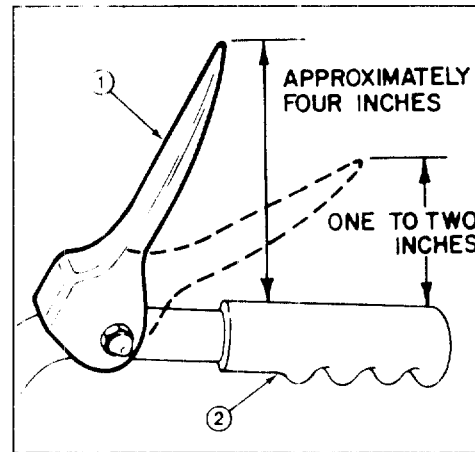

Figure 7
6. Slowly pull machine backward while slowly depressing traction control lever toward handle. Adjustment is correct when wheels stop turning and the distance between the top of the handgrip and the bottom of the traction control lever is one to two inches (Fig. 7). Readjust the two flange nuts, if necessary, to obtain